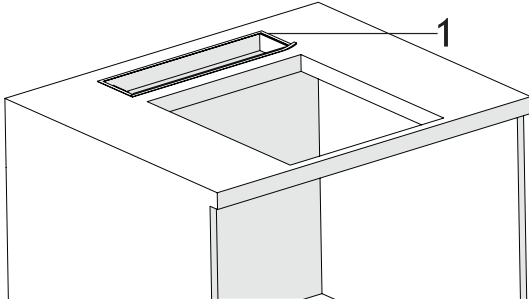

Fig. 15
- ➔ Attach the supplied sealing gasket around the discharge (Fig. 15).